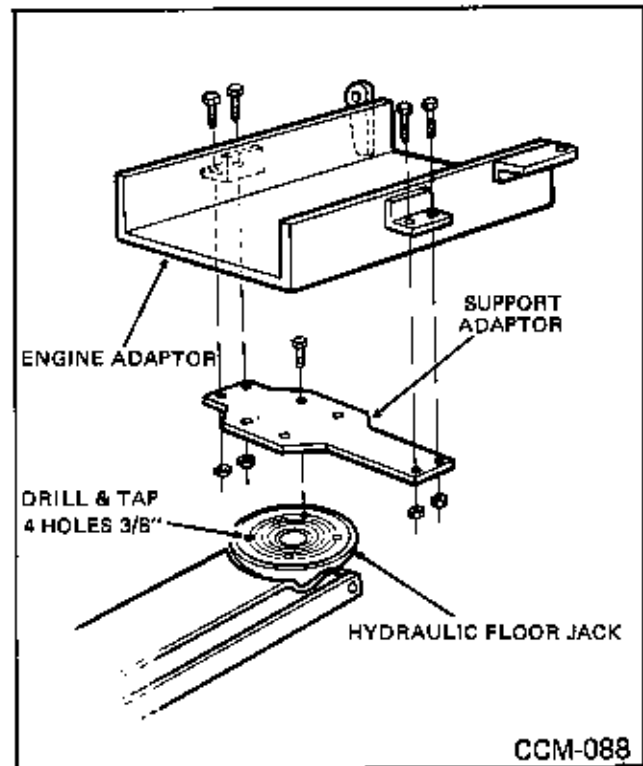

Fig. 89
8. Drill four (4) 3/8" tapped holes in wheeled hydraulic floor jack using support adapter as a pattern. (Fig. 89)
9. Attach support adapter to jack with four bolts. (Fig. 89)